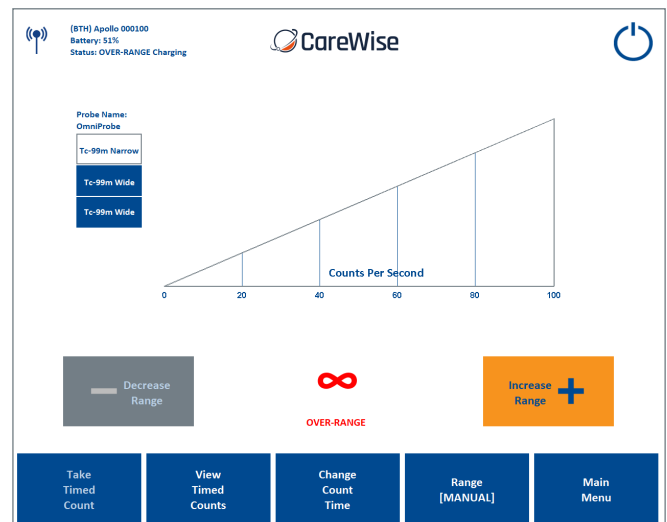

Figure 39 – Over-Range Error.
**Over-Range Error** – [Figure 39] If the measured count rate exceeds the measurement capacity of the probe (e.g. by moving the probe in the vicinity of a very high level of radioactivity), the device will enter an 'over-range' state, leading to an audible warning and an infinity symbol being displayed in place of the measured count rate value. Moving the probe away from the source of radioactivity will reinstate the default 'counting' state of the device.